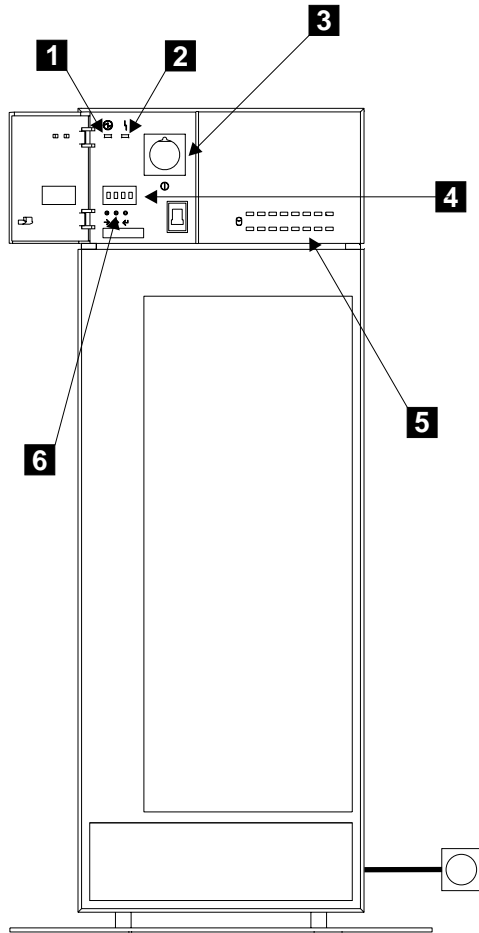

Figure 14. Checking the Lights
9. Refer to Figure 14.
When the configuration is complete, observe the 7133, and check whether the lights and the ID display are as described here (refer to Figure 14 on page 23):